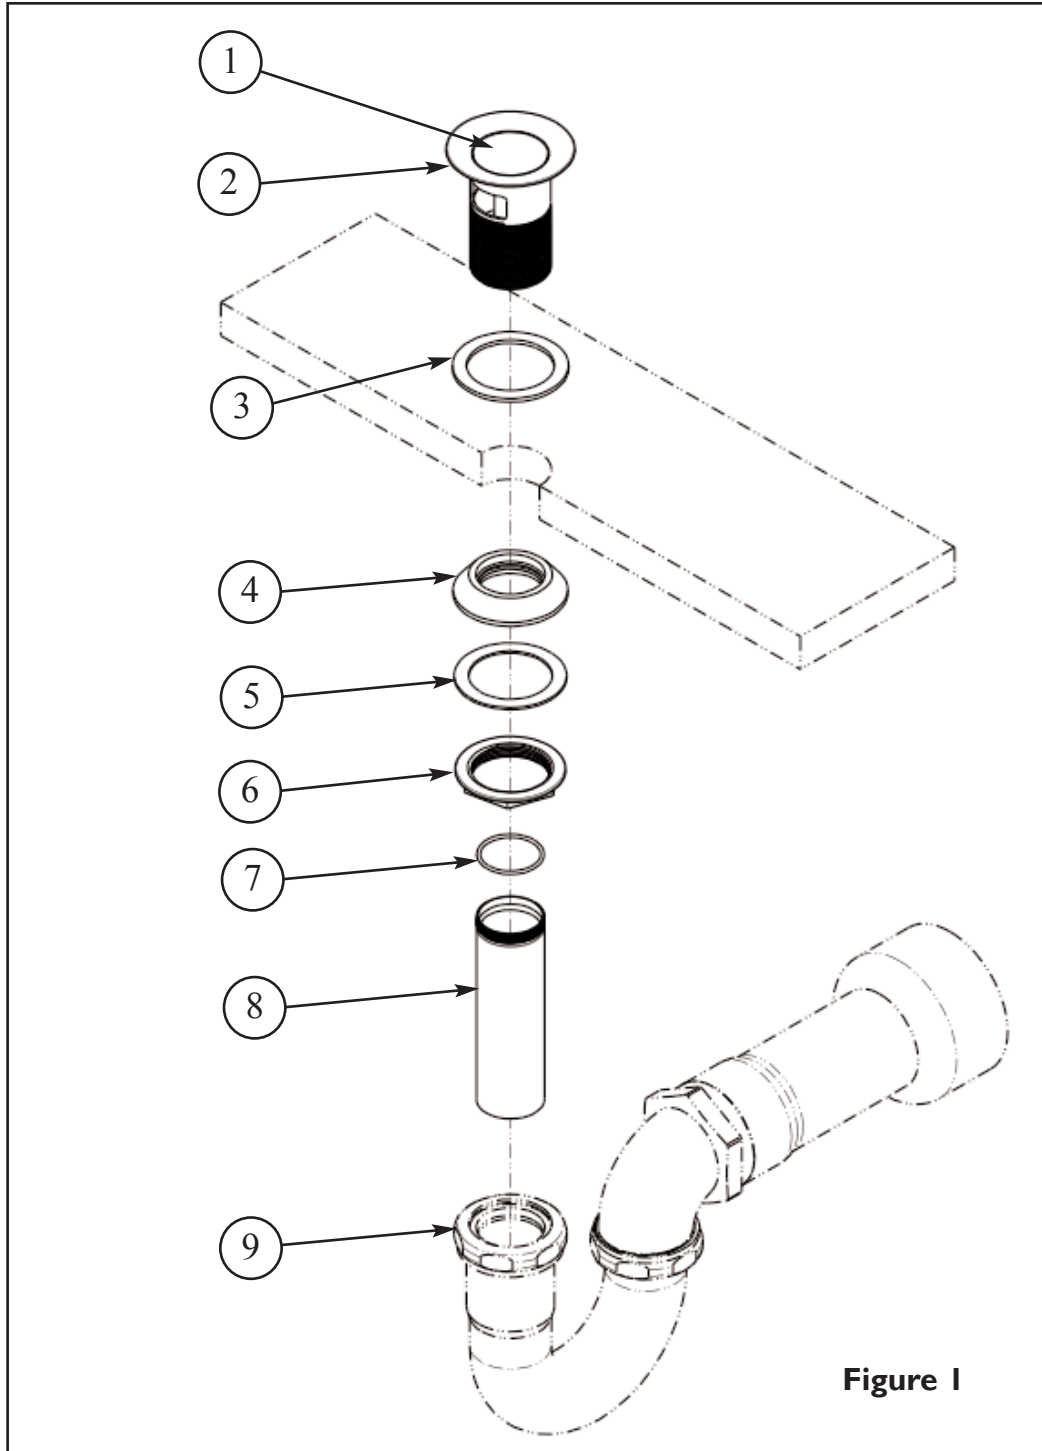

Figure 1
- a. 1/2" IPS flexible RISER (2), discard rubber NOSECONE (7), friction WASHER (3) and coupling NUT (4).
- b. 3/8" or 1/2" O.D. bullnose RISER (5), place friction WASH-ER (3) and coupling NUT (4) onto bullnose RISER (5).
- c. 1/2" O.D. copper RISER (6), place coupling NUT (4), friction WASHER (3), and rubber NOSECONE (7) onto end of copper RISER(6).
- Turn VALVE STEM (5) to OFF position.
- Tighten ESCUTCHEON (3) with O-RING (4) onto CARTRIDGE (6).
- Place HANDLE (1) into the VALVE STEM (3) and secure with SET SCREW (2). Any adjustments for rotational alignment must be made to the valve body, not to the cartridge.
- Do not remove drain PLUG (1) from FLANGE (2). Place FLANGE (2) and white WASHER (3) through sink drain opening. (Clear silicone may be used in place of white washer.) From bottom side of sink, place cone shaped rubber WASHER (4) onto FLANGE (2) and slide up against sink bottom. Note: Cone portion of WASHER (4) to face upward. Next slide on clear flat WASHER (5) and secure with flange NUT (6). Assemble O-RING (7) to TAILPIECE (8) and attach to drain FLANGE (2). Attach TAILPIECE (8) to p-trap drain (9) (not included). See Figure 1.